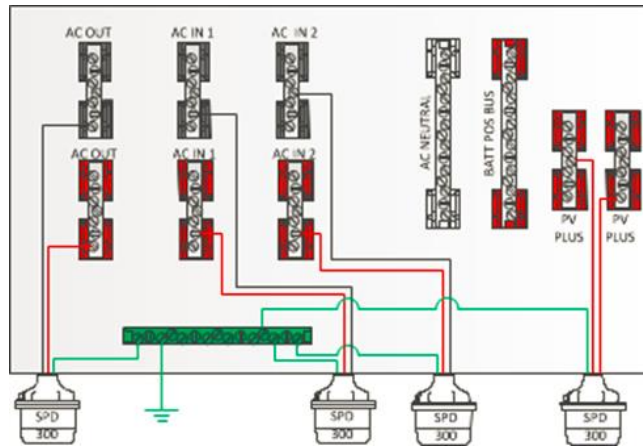

Figure 25-Lightning Arrestors
- The Battery + lightning arrestor has marginal value since the batteries make a pretty large arrestor themselves. See Figure 25.